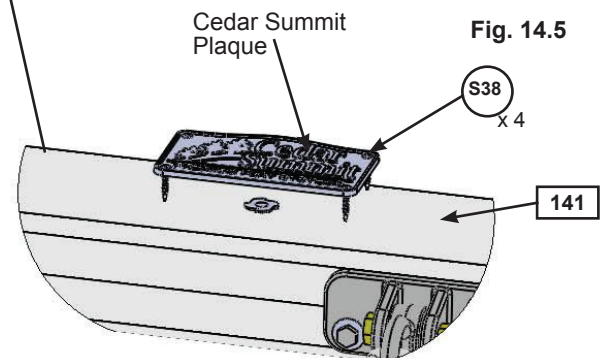

Fig. 14.5
D: Attach Cedar Summit Plaque to centre of (141) Engineered SW Beam (over top of t-nut) using 4 (S38) #7 x 1-1/8" Pan Screws. (fig. 14.5)